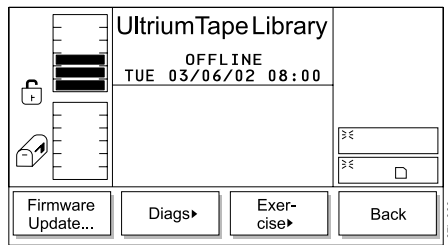

Figure 338. Library Submenu
3. Press the button below the **Library** softkey. The Library Submenu displays (see Figure 338 on page 222).